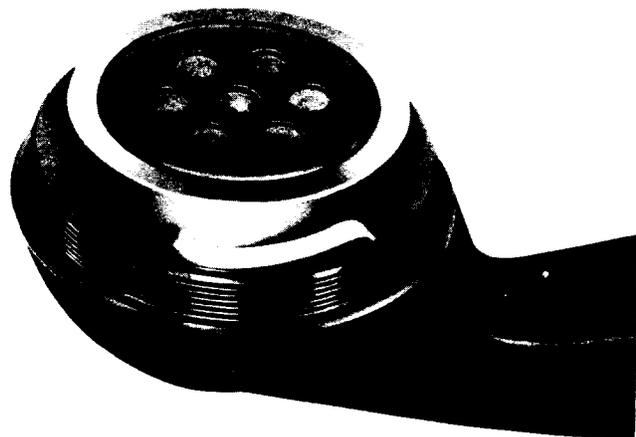

Fig. 6—24A Lock (MD) on Receiver Bowl
- (1) Remove receiver cap.
- (2) Place lock on rim of bowl (Fig. 6).
- (3) Replace cap and tighten with 514-type tool.